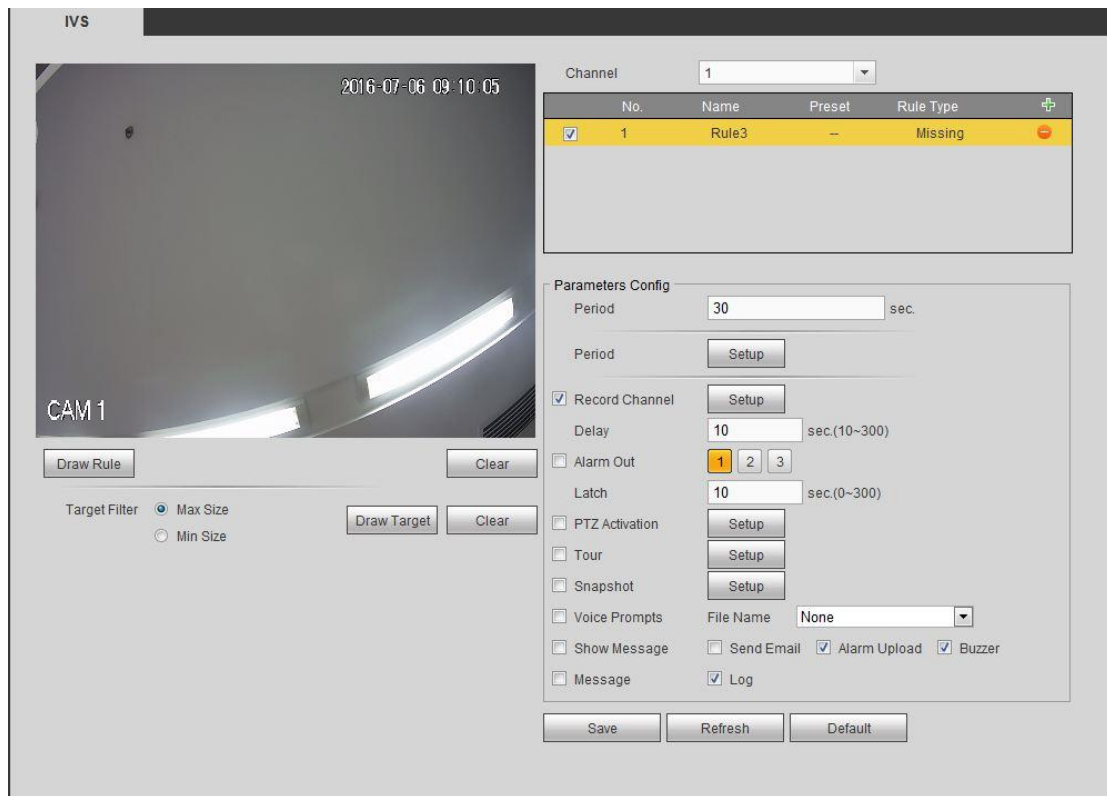

Figure 5-74
Step 2 Check the missing object detection to enable missing object detection function. See Figure 5-74.